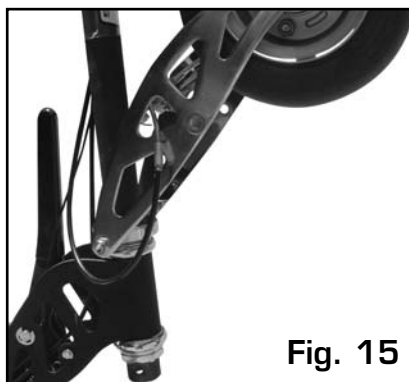

Fig. 15
2. Rotate the complete front wheel and fork assembly upwards so that the large bearing lock nuts are accessible (Fig. 15).